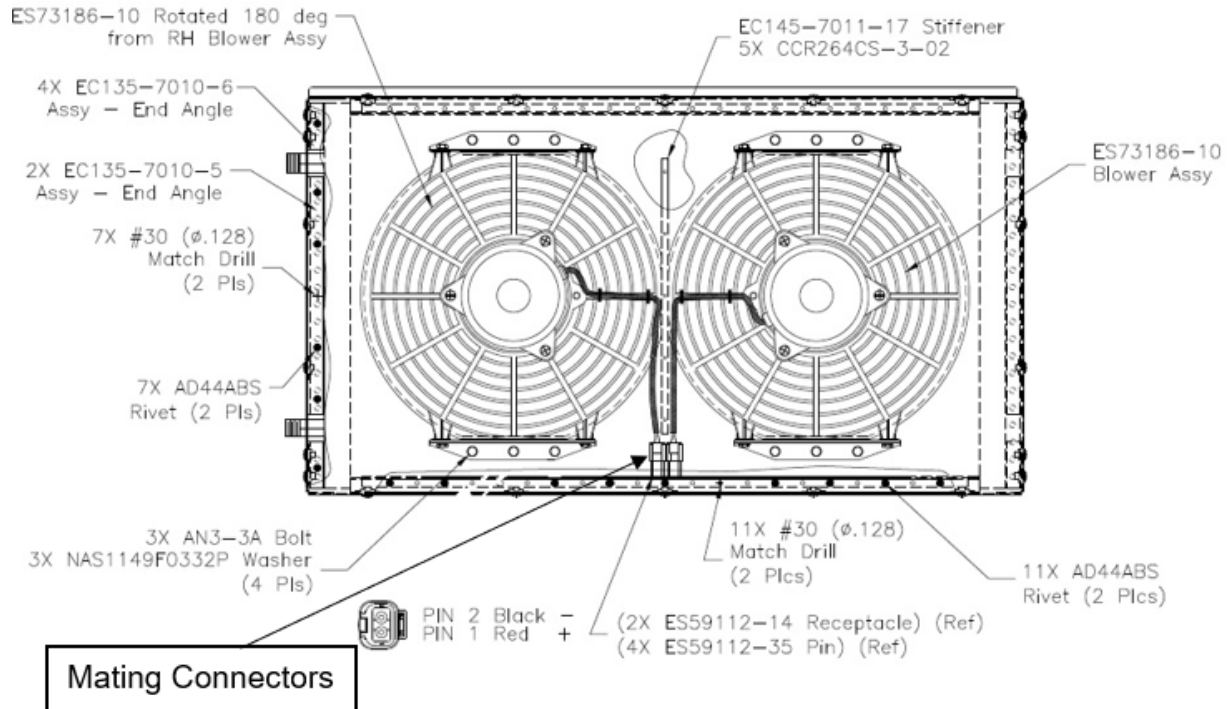
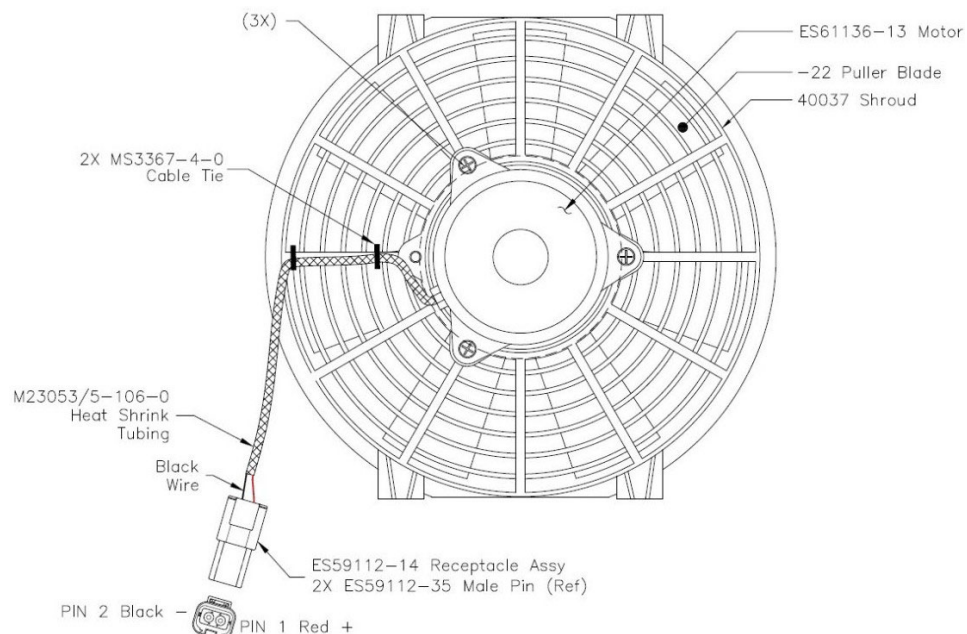

Figure 1: Condenser Assembly EC135-7000-2
Figure 2: Blower Assembly ES73186-10
The Molex motor connectors used in the Air Comm Corporation Condenser Assembly EC135-7000-1 and ES73186-9 are now obsolete and have been replaced with Deutsch connectors as built per EC135-7000-2 (shown in Figure 1) and ES73186-10 (Shown in Figure 2).
9. After installing or converting both blower assemblies to P/N ES73186-10, locate the existing Molex connectors on the aircraft-side leading to the panel relay. The new aircraft-side connectors will plug into the mating connectors of the Condenser Assembly EC135-7000-2 shown in Figure 1.